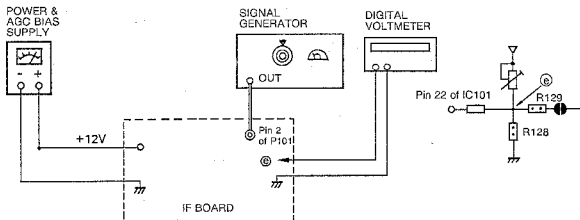

Figure 6. AFC Alignment
- GENERAL Refer to figure 6 for test equipment connection.
3. Supply +12 volts to the IF Board. (See figure 6.)
- DVM Connect to the resistor R125 (⊕ in figure 6) and ground.